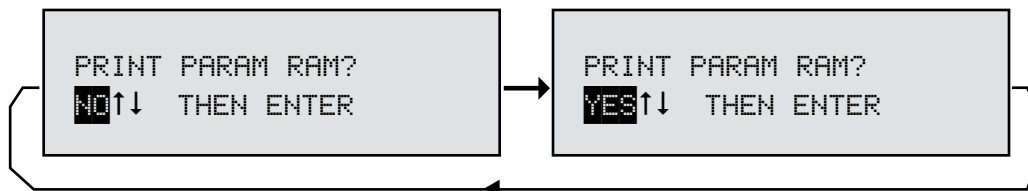

Figure J5
- ✓ Figure J5 next appears on the viscometer display. Turn the viscometer power off.